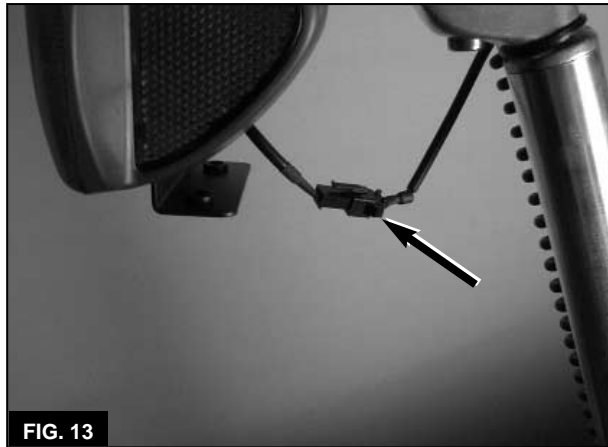

FIG. 13
2. Disconnect the taillight/brake light connector under the seat (**Figure 13**).
5. Connect the taillight/brake light connector (**Figure 13**).